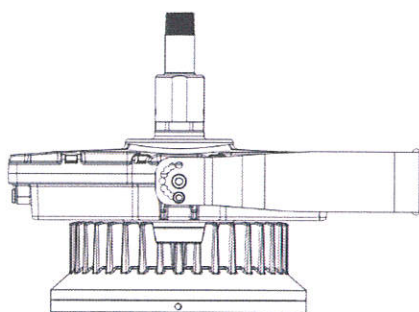

Figure 1
- Position the bracket holders and secured to mounting surface by means of the provided M8 and M6 screws, Torque value M8=61.0 kgf-cm, M6=24.5 kgf-cm. (Figures 1 and 2)